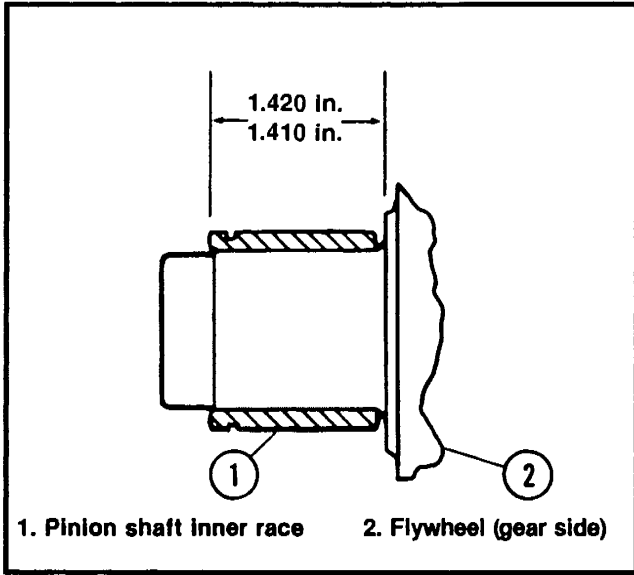
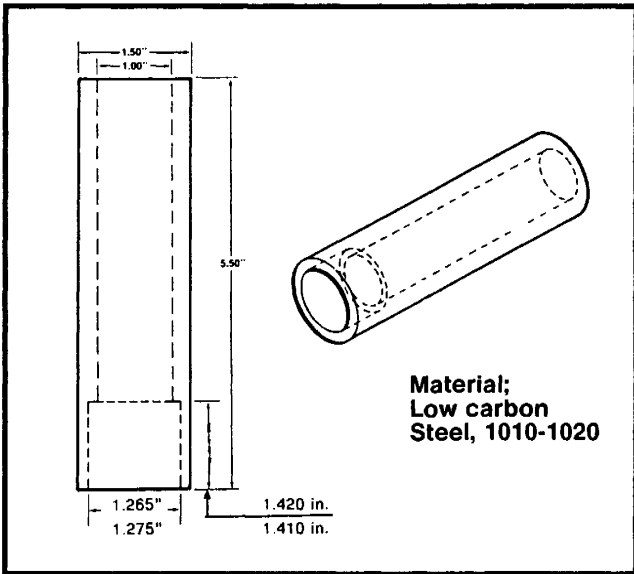

Figure 3-66. Inner Race Location
Figure 3-67. Inner Race Installation Tool
2. See Figure 3-66. Press new race (1) on pinion shaft to the dimension shown. Figure 3-67 shows an installation tool that will locate the inner race properly when tool is "bottomed" on flywheel.